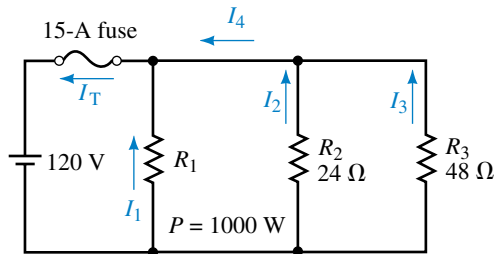

FIGURE 6–88
- For the circuit of Figure 6–88, calculate the value of R_3 which will result in a circuit current of exactly $I_T = 15$ A.